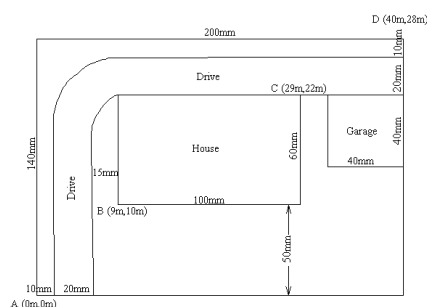
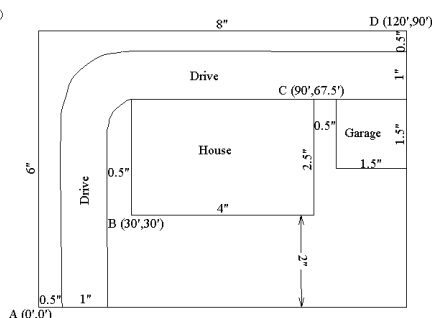

Figure 4-91
Figure 4-92
First we need to create a scaled plan from which to digitize – see Figure 4-91 (metric units) or Figure 4-92 (US units).
1. Draw a rectangle measuring 8" x 6" (200mm x 140mm) on an A (A4) size piece of paper. This represents a property boundary of 120' x 90' (40m x 28m) at a scale of 1":15' (1:200). Draw another rectangle 4" x 2.5" (100mm x 60mm) for the house. The bottom left corner of the house should be 2" x 2" (45mm x 50mm) from the bottom left corner of the property. Draw a third rectangle 1.5" x 1.5" (40mm x 40mm) for the garage to the right of the house touching the right property boundary. Draw a curved drive along the left and top of the property. The drive should be 1" (20mm) wide and positioned 0.5" (10mm) from the left and top boundaries. Label the bottom left corner of the property A (0,0), the bottom left corner of the house B (30',30') or (9m,10m), the top right corner of the house C (90',67.5') or (29m,22m) and the top right corner of the property D (120',90') or (40m,28m). Your drawing should look like Figure 4-91 (metric units) or Figure 4-92 (US units) without the measurements.